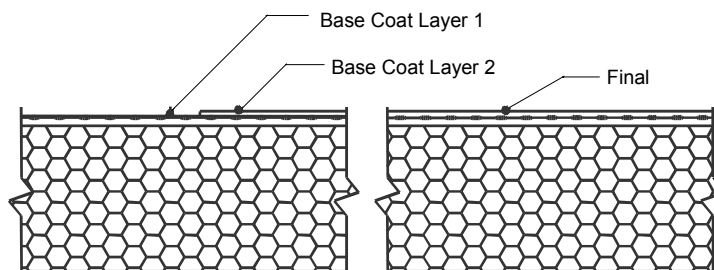

Figure No. 2
- b. The base coat shall be applied such that the resulting overall minimum base coat thickness is sufficient to **fully embed** the reinforcing mesh. The recommended method is to apply the base coat in two (2) passes.
- 3) Allow the base coat mixture to take up until firm to the touch. Trowel a second tight coat of the base coat mixture over the first coat to **fully cover** the reinforcing mesh (see Figure No. 2). The result should be such that the reinforcing mesh is approximately centered within the base coat thickness. Do not allow the first pass to completely dry prior to the second pass application or an excessive amount of base coat mixture will be necessary to fully coat the wall surface.